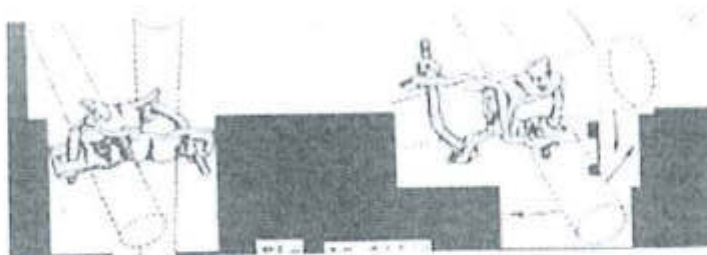

Fig. 16.3 (ii)
- Single bolt coupler can take only a load of 508 kgs without slipping. The putlog coupler can take only 129 kgs without slipping (Fig. 16.3(iii)).